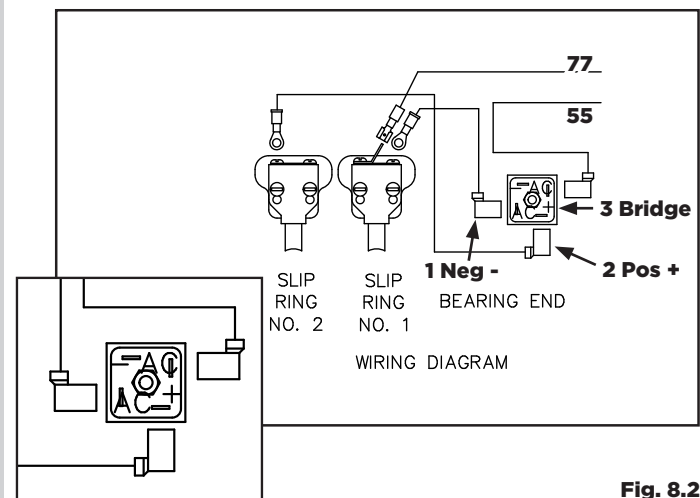

Fig. 8.2
To flash the generator assembly, remove the two blue slide connectors (1 and 2) from bridge (3). Flash by connecting positive(+) from battery to positive (+) flag terminal; negative(-) from battery to AC (Inset, Fig. 8.2).